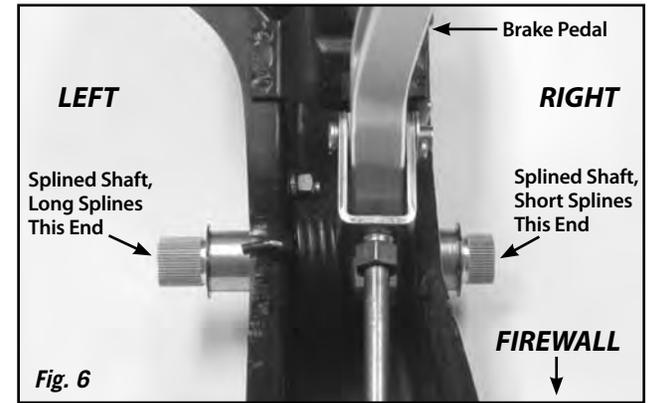

Fig. 6
**Step 3:** Insert the splined shaft into the clutch pedal axle housing, with the long splines on the left and the short splines on the right. Push it through so that the splined ends are protruding from both sides of the pedal support bracket. **Fig. 6**